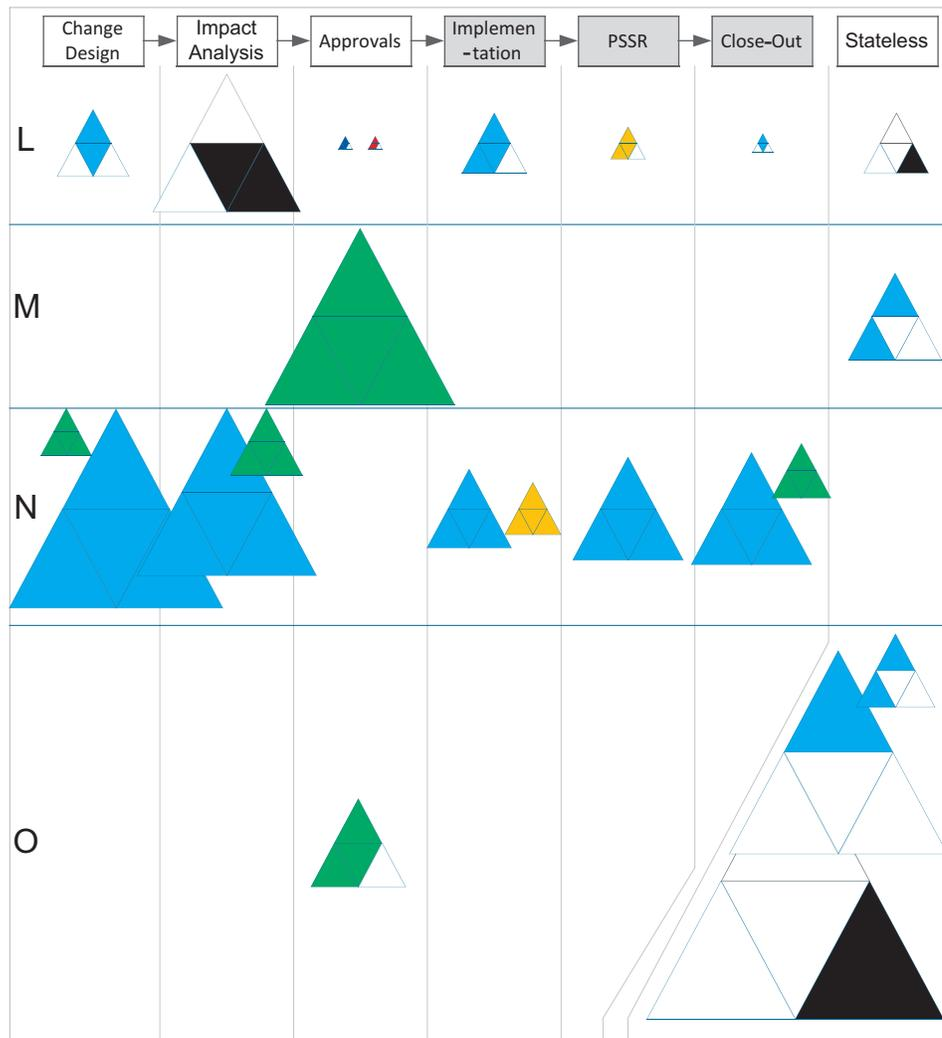
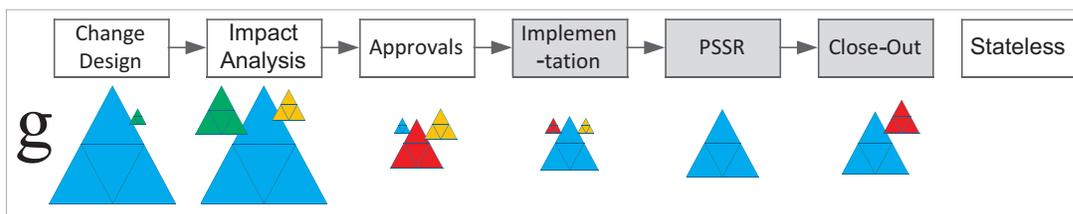

Figure 5. MOC scoping practices of 4 companies
Figure 6. An ideal, scoped MOC.
Let’s take a look at what different companies are doing... The scoping items for 15 companies were analyzed and plotted in Figure 4 and Figure 5. The symbols are scaled so that the area is proportional to the number of items. For example, a triangle with a base length of 0.1” represents 1 item, while a triangle with a base length of 0.2” represents 4 items. The largest blue triangle for company N represents 221 items; the large information symbol for Company O represents 428 items.
Company N has the best quality AND most comprehensive scoping activity, of all those considered. Notice how every scoped element, whether a call to perform an action (blue), a review (green) or a notification (yellow) is fully described. There's a statement of why the item needs to be done, what role is supposed to do it, what kind of action it is, and when it should be performed. The symbols in Figure 5 represent a total of 611 scoped items. Note also that there are no stateless tasks—every task is clearly identified as to when it needs to be performed.
Company O has a detailed questionnaire for each MOC. The large symbol with the black shading in the lower right, in Figure 6, indicates that there are 485 information gathering questions that must be addressed during the scoping activity. The company has structured the questions sensibly, so that only the relevant categories of questions are answered during scoping. Someone has gone to a lot of trouble to put these lists together. Wouldn't it make sense to complete the job by identifying associated action items?
To some extent they have done that. There are an additional couple of hundred scoping questions which do identify actions that need to be performed. But, as shown by the blue symbols in Figure 6, the company didn't go all the way—specifically, there's no indication of when these actions need to be performed.
Using the evaluation approach, described in the previous sections, the new MOC scoping approach at this company is as shown in Figure 6. In order to make the symbols in all the diagrams comparable, they are sized to the same scale; that is, a symbol with a given area in Figure 6 represents the same number of action items as a symbol with the same area in Figure 5.
- The quantity and extent of hazards at this company are less than Company N. So, it's reasonable that there are fewer scoping items, as indicated by the area of the symbols in Figure 6 being smaller than the area of the symbols in Figure 5.